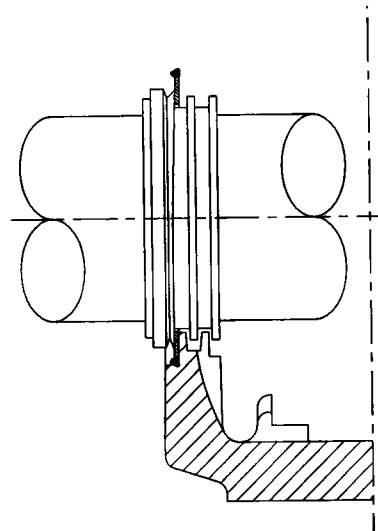

Figure 3b
6. While lowering the shaft bearing and seal assembly(ies) into the base, guide the metal seals with rubber bead so they line up with the outboard "V"-shaped base grooves (Figure 3b). See bearing mounting instructions for proper grease fill of bearing insert and housing.